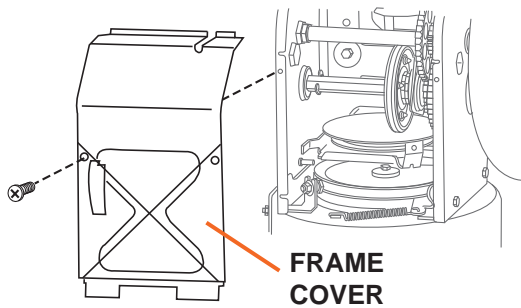

Figure 12
1. Remove the lower frame cover by removing the two screws which secure it (see Figure 12).